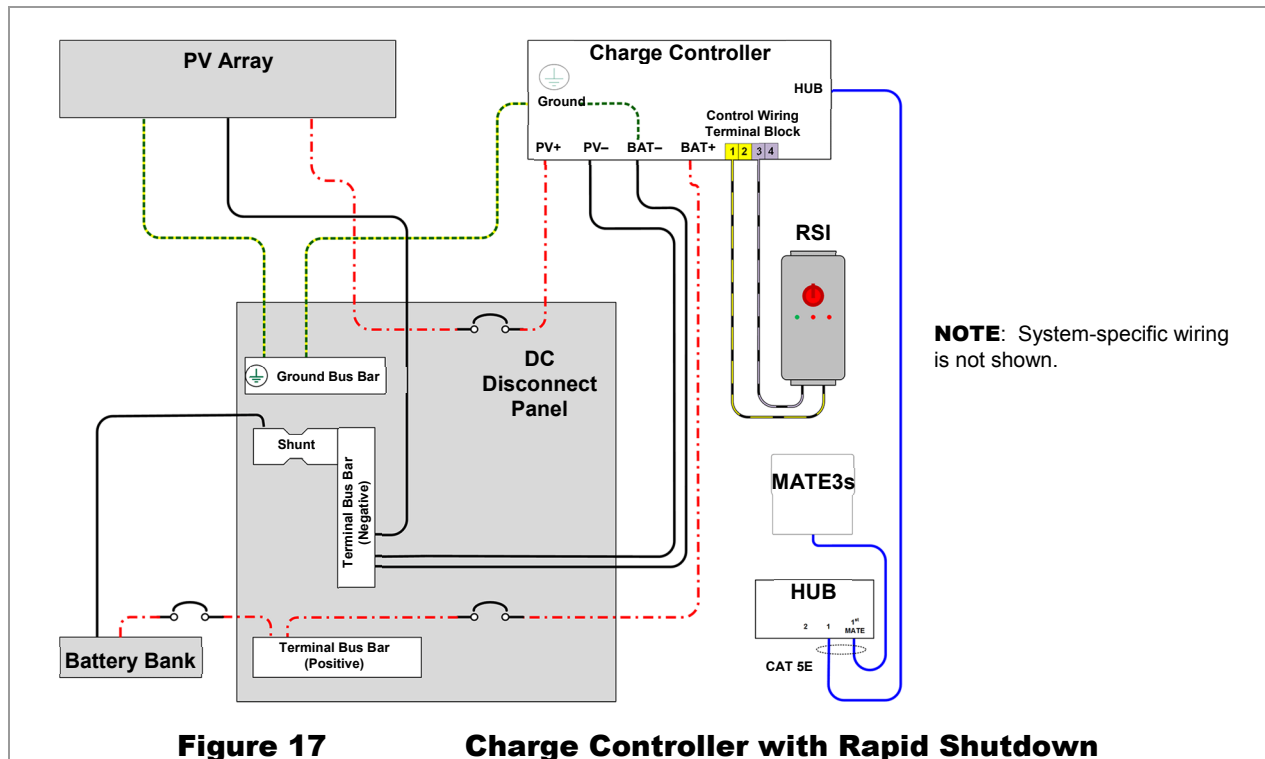
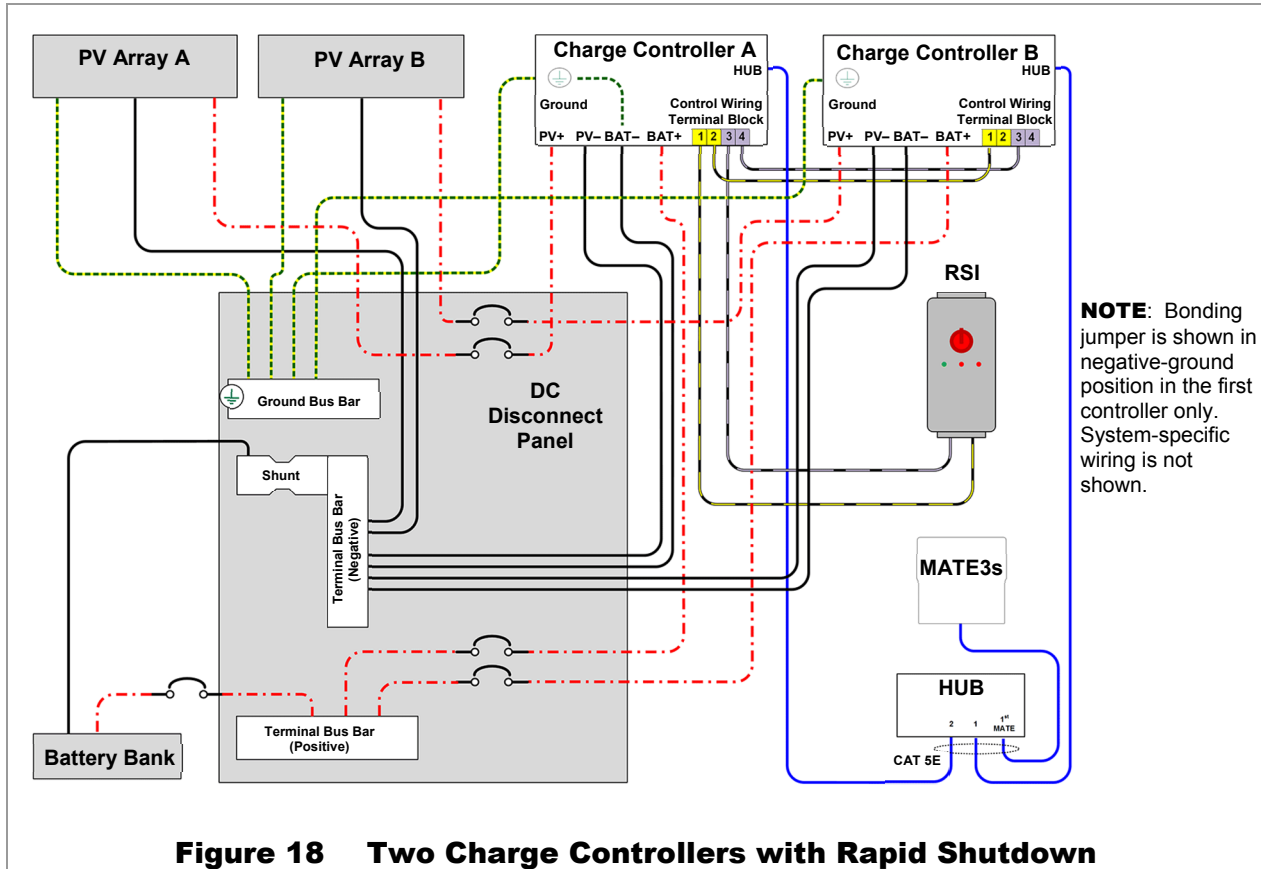

Figure 17 Charge Controller with Rapid Shutdown
Figure 18 Two Charge Controllers with Rapid Shutdown
Note that for simplicity, Figure 17 and Figure 18 do not show terminals **5** through **8**.
In Figure 17, a wire has been run from terminal **1** to one of the RSI terminals. A wire has also been run from terminal **3** to the other RSI terminal.
- In Figure 18, Charge Controller A terminal **1** is wired to one of the RSI terminals. Terminal **3** is wired to the other RSI terminal.
- In Figure 18, Controller A also shows terminals **2** and **4** wired to Controller B terminals **1** and **3**.